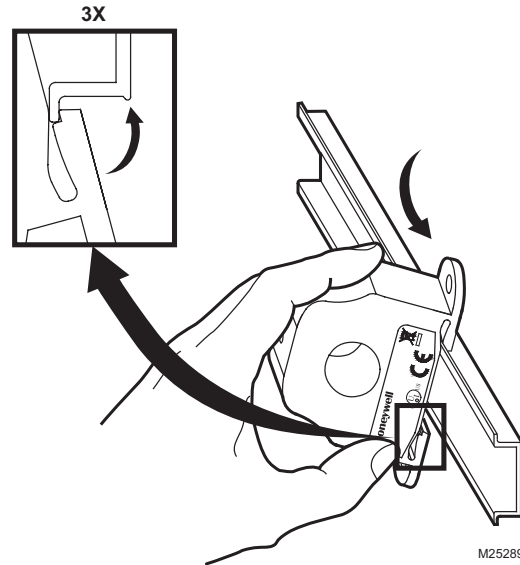

Fig. 3. Sensor Placed on Rail.
The current switch may be mounted in any position using the (2) #8 x 3/4 in. (19 mm) Tek screws and the mounting holes in the base snapped directly on to the 1.4 in. (35 mm) DIN rail (See Figures 3 and 4). Leave a minimum distance of 1 inch (25 mm) between the current switch and any other magnetic devices, such as contactors and transformers.